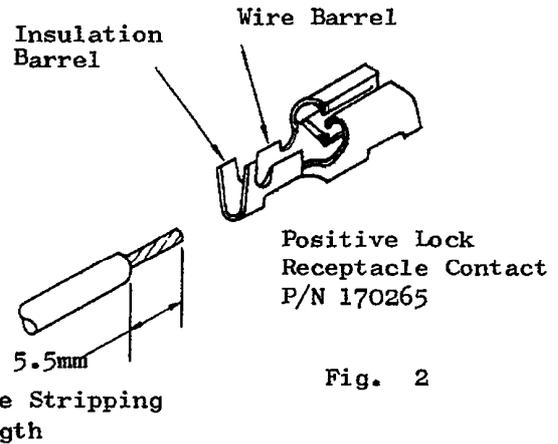

Fig. 2
- b) Strip wire end to the length shown in Fig. 2. Do not nick, cut or damage the strands when stripping.